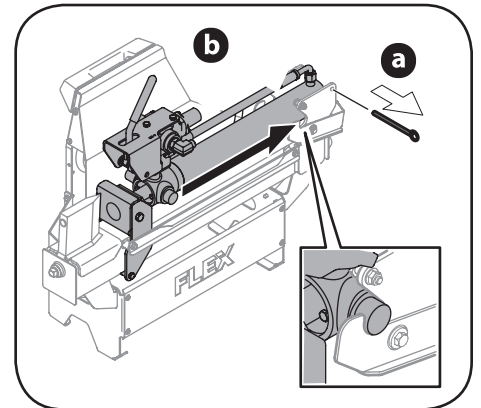

Figure 3-7
10. Pull the locking pin (a) from the cylinder base. Slide the cylinder back to lock in place. See Figure 3-7.